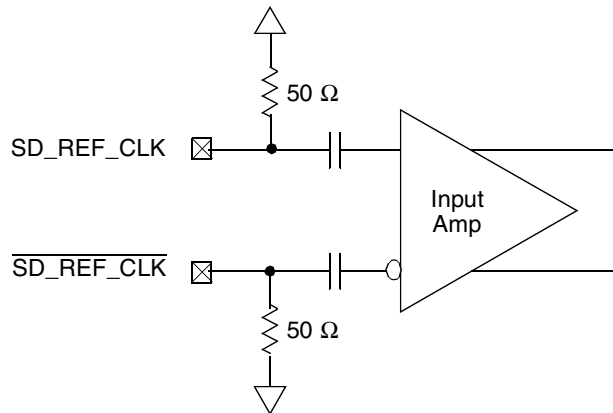

Figure 38. Receiver of SerDes Reference Clocks
Figure 38 shows a receiver reference diagram of the SerDes reference clocks.
- The SD_REF_CLK and $\overline{\text{SD_REF_CLK}}$ are internally AC-coupled differential inputs as shown in Figure 38. Each differential clock input (SD_REF_CLK or $\overline{\text{SD_REF_CLK}}$) has a 50- Ω termination to XCOREVSS followed by on-chip AC-coupling.